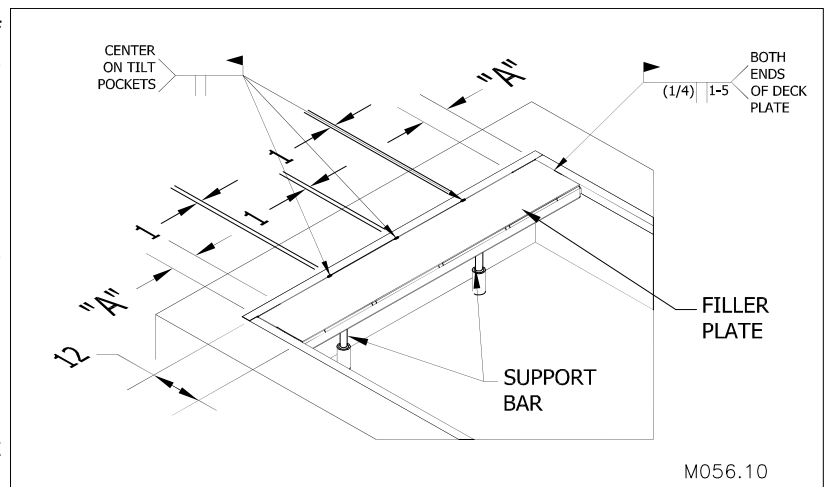

Figure 28: Installing the filler plate
11. ☐ Place the filler plate on top of the rectangular tubes as indicated in "Figure 28: Installing the filler plate" on page 24 making sure the filler plate sits flat and square to the rear and side curb angles.
12. ☐ Weld 1 inch butt weld at the mark off locations on the deck plate as indicated in "Figure 28: Installing the filler plate" on page 24.